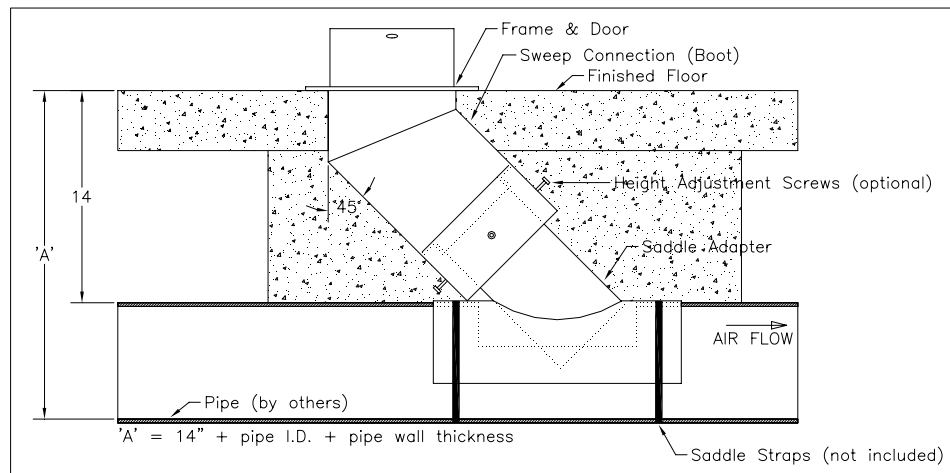

FIG 2
2. Dig the trench depth between a minimum depth of 'A' to a maximum depth of 'A' + 3" (See FIG 2).